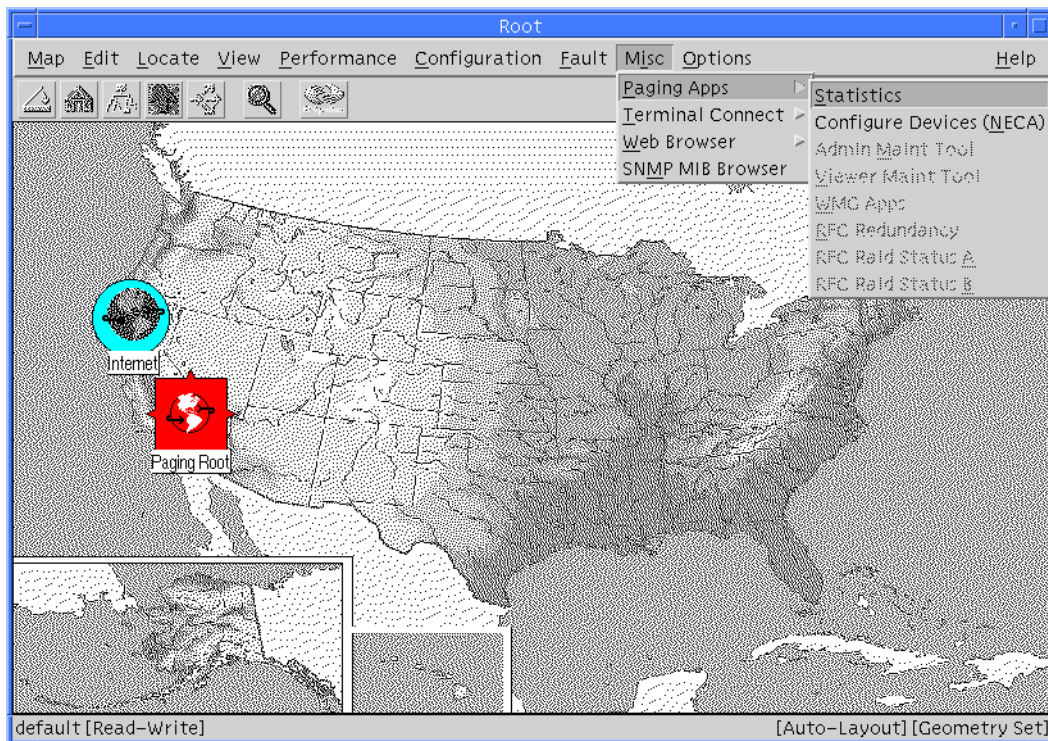

Figure 7-4: Launching Historical Statistics
2. From the OpenView Paging World screen, open Historical Statistics by selecting **Misc>Paging Apps>Statistics** (see Figure 7-4).